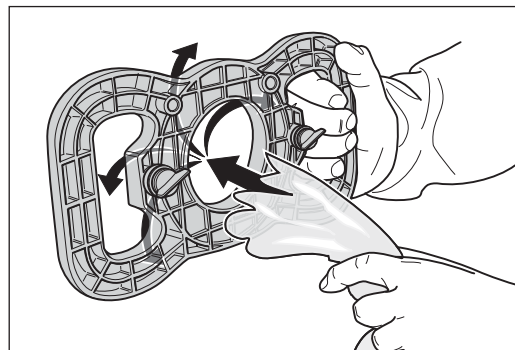

Fig. 24 Insert the waste bag into the emptying fixture.
- 7 Hold the handle of the emptying fixture and insert a waste bag from the ribbed side through the opening in the centre of the fixture (fig. 24).